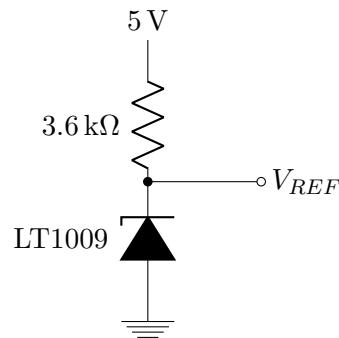

Figure 11: Schematic of the LT1009 precision voltage reference circuit.
1. Build circuit shown in Fig. 11 on your breadboard.